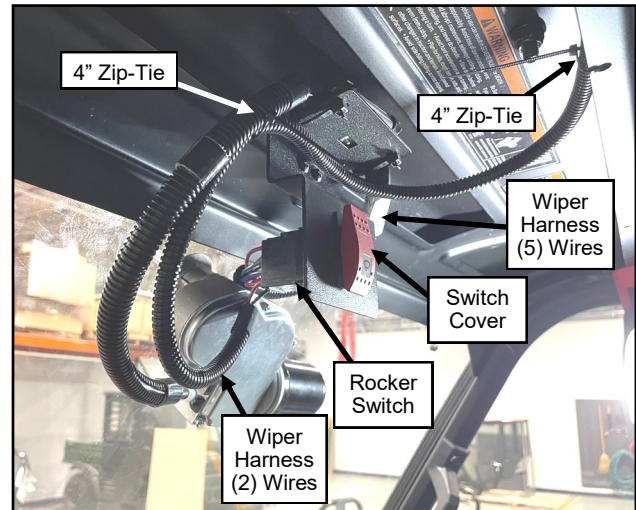

Fig. 1.11 (Install Rocker Switch to Vehicle)
- 1.11 Per figure 1.11, install rocker switch into the rocker switch bracket (making sure light bulb is at the bottom), install the switch cover (with symbol at the bottom) and connect the 8-pin VCH connector (found on the Wire Harness w/o Relay) to the back of the rocker switch. Next, bolt-on Rocker Switch Bracket to the center tab found on the windshield mount with provided hardware. Route the cables as shown. Use zip-ties to secure the harness in place. Run the (2) wire end (4ft long) part of the Wire Harness w/o Relay to the back edge of the windshield mount and use the (2 of the 3) provided holes to zip-tie the harness in place.